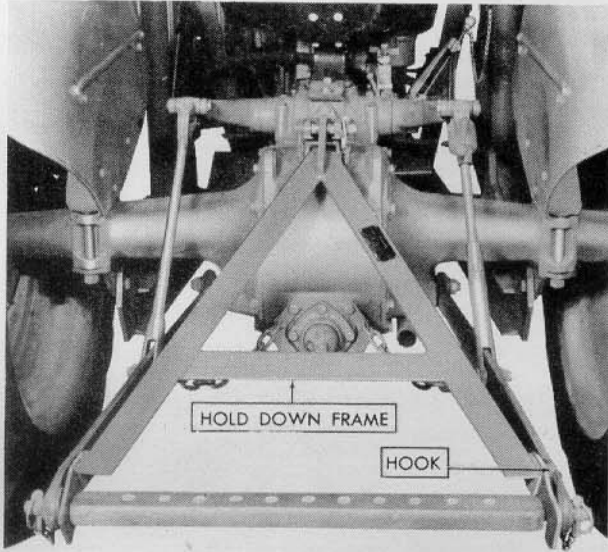

Figure 16
- a. Attach the forward end of the hold down assembly to the tractor control spring yoke with link pin and linch pin. See Figure 16.
8. Remove the hold down frame, see Figure 16, before using the tractor hydraulic lift.